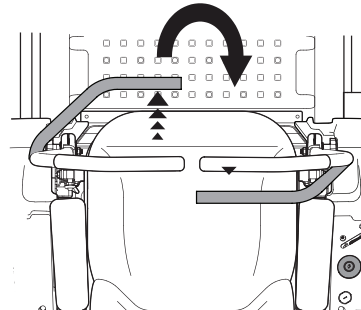

Figure 32
2. To turn clockwise, move the left control lever forward while simultaneously moving the right control lever rearward (Figure 32).